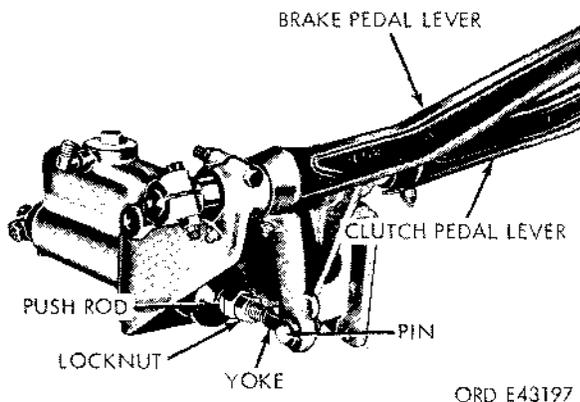
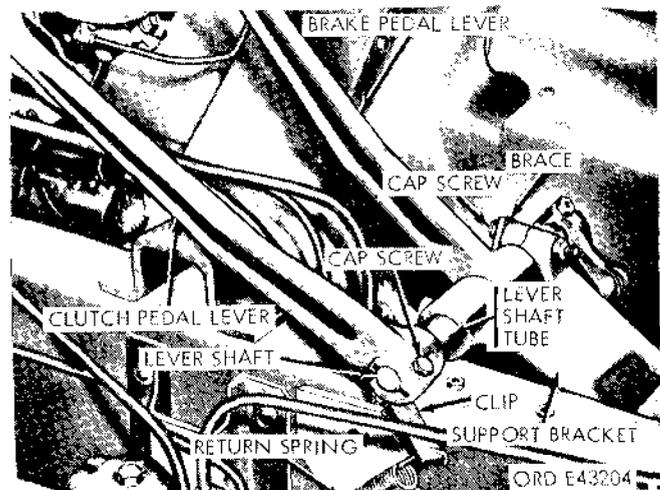

Figure 2-177. Brake pedal linkage with master cylinder attached.
Figure 2-182. Brake and clutch pedal assembly mounted to vehicle.
(a) Remove the pin (fig. 2-177) securing the push rod yoke to the pedal lever.
(b) Hold the push rod to prevent it from turning, and loosen the locknut on the yoke (fig. 2-177).
(c) Holding the push rod, turn the yoke until the desired brake pedal free travel is obtained (fig. 2-177).
(d) Position the push rod yoke on the pedal lever and install the yoke pin (fig. 2-177).
(f) Tighten the locknut on the push rod yoke, holding the push rod to prevent it from turning (fig. 2-177).
(1) Remove the capscrew securing the clutch pedal lever to the lever shaft (fig. 2-182). Remove the pedal assembly from the shaft.
(2) Unhook the upper end of the clutch pedal return spring (fig. 2-182) from the clip bolted to the lower end of the clutch pedal lever.
(3) Remove the nut and screw (fig. 2-182) from the lower end of the clutch pedal lever, and remove the lever clip and key from the lever shaft.
(3) Remove the nut and screw from the upper end of the brake pedal lever (fig. 2-182), and remove the brake pedal stem from the lever.
(6) Remove the rubber bumper from the stem, and remove the brake pedal from the top side of the floor board.
(7) Remove the nut and screw from the control rod lever, and remove the lever and key from the lever shaft.
(8) Remove the cotter pin from the end of the yoke pin (fig. 2-177), remove the yoke pin, and remove the push rod yoke from the lower end of the brake pedal lever.
(9) Unhook the upper end of the brake pedal return spring from the lower end of the brake pedal lever.
(10) Remove the nut and capscrew (fig. 2-182) from the upper right side of the support bracket, and remove the lever shaft tube with the shaft and bushings from the brake pedal lever and support bracket.
(1) Position the brake pedal lever (fig. 2-182) at the support bracket, and install the lever shaft tube with the shaft and bushings in the bore of the bracket and lever.
(2) Aline the hole in the upper end of the support bracket brace (fig. 2-182) with the screw hole in the upper right side of the support bracket, and install the screw in the holes in the brace and bracket. Install the nut on the screw, and tighten it.
(3) Install the clutch control rod lever and key on the shaft, and secure it with the capscrew and nut.
(4) Position the control rod on the lower end of the control rod lever, install the yoke pin, and install the cotter pin in the end of the yoke pin.
(3) Install the clutch pedal lever (fig. 2-182) and key on the shaft. Position the return spring bracket clip at the lower end of the lever, install the capscrew in the holes in the lever and clip, and install the nut on the capscrew. Tighten the nut on the capscrew.
(6) Hook the upper end of the clutch pedal return spring to the clip at the lower end of the clutch pedal lever.
(7) Hook the upper end of the brake pedal return spring to the lower end of the brake pedal lever.
(8) Position the yoke (fig. 2-177) on the front of the master cylinder push rod at the lower end of the brake pedal lever, install the yoke pin, and install the cotter pin to the end of the yoke pin.
(9) Insert the brake pedal stem in the hole in the top side of the floor board, install the rubber bumper on the stem, and insert the stem in the hole at the upper end of the brake pedal lever.
(10) Install the capscrew and nut at the upper end of the pedal lever, and tighten it.
(11) Lubricate the brake pedal lever and lever shaft.
(12) Check the brake pedal free travel and adjust it if necessary (para 2-189 *a*).
(13) Check the clutch pedal free travel and adjust it if necessary (para 2-49).
(1) Remove the cotter pin from the end of the yoke pin, remove the yoke pin, and remove the master cylinder push rod yoke from the lower end of the brake pedal lever (fig. 2-177).